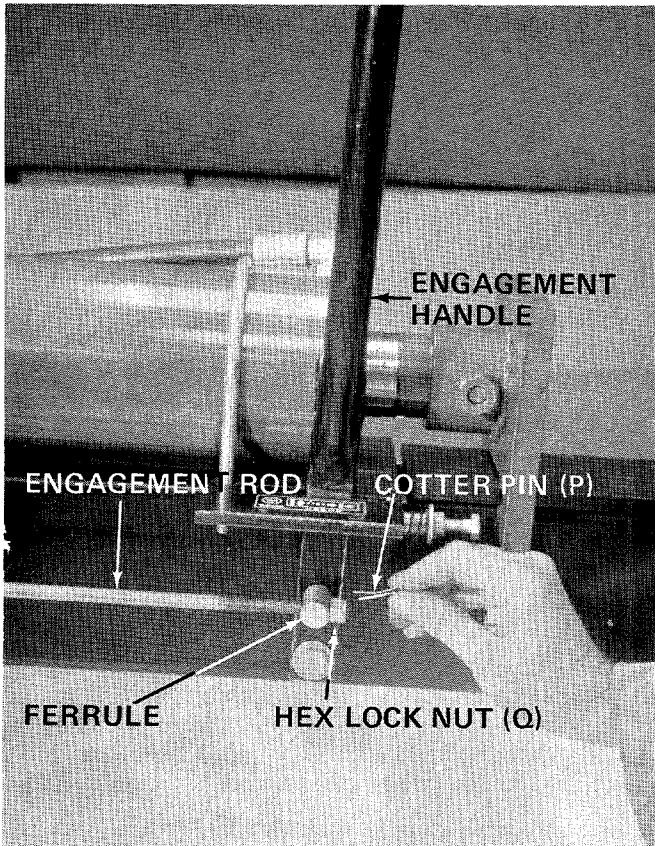

FIGURE 13
13. Thread hex lock nut (Q) on engagement rod until nut rest against the ferrule. Secure ferrule in engagement handle with cotter pin (P). See figure 13.